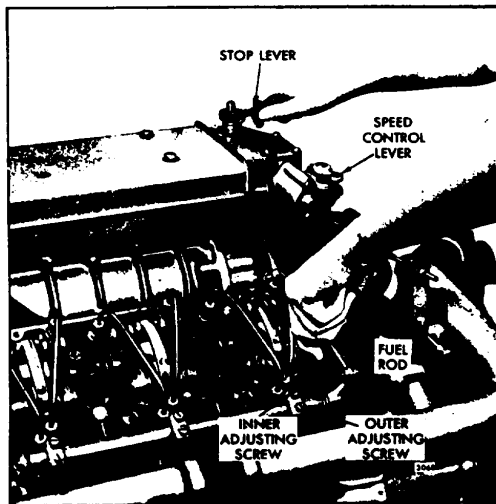

Fig. 3. - Positioning No. 3L Injector Rack Control Lever
6. Move the stop lever to the RUN position and hold it in that position with light finger pressure. Turn the inner adjusting screw of the No. 3L injector rack control lever down (Fig. 3) until a slight movement of the control tube is observed, or a step-up in effort to turn the screw driver is noted. This will place the No. 3L injector rack in the full-fuel position. Turn the outer adjusting screw down until it bottoms lightly on the injector control tube. Then alternately tighten both the inner and outer adjusting screws.